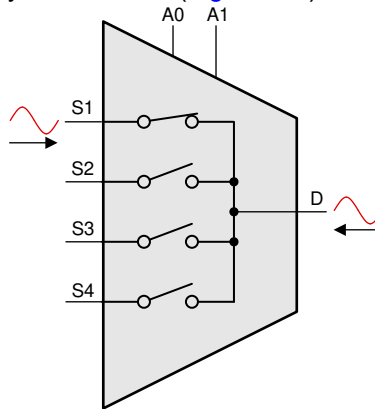

Figure 3-1. Bidirectional Signal Path
- The switch conducts equally well from source (S) to drain (D) or from drain (D) to source (S). Each channel has very similar characteristics in both directions and supports both analog and digital signals. TI analog switches and multiplexers are typically bidirectional (Figure 3-1).